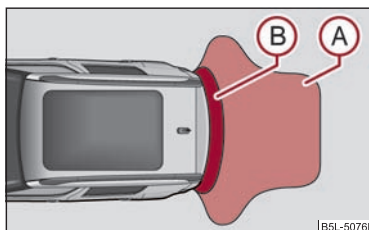
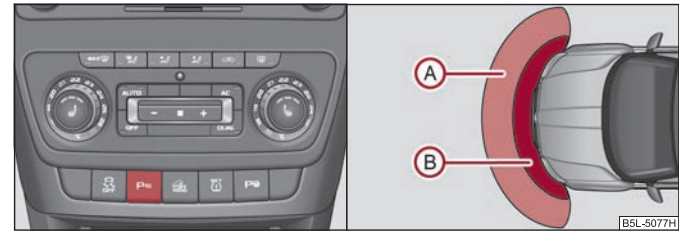

Fig. 109 Parking aid: Detection range of rear sensors
Fig. 110 Activating the parking aid / detection range of the front sensors
The clearance warning begins at a distance of about 160 cm from the obstacle (area A ⇒ fig. 109). The interval between the warning signals becomes shorter as the clearance is reduced.
The distance warning begins at a distance of about 120°cm from the obstacle in front of the vehicle (area A ⇒ fig. 110) and about 160 cm from the obstacle behind the vehicle (area B ⇒ page 112, fig. 109). The interval between the warning signals becomes shorter as the clearance is reduced.
The parking aid is activated when the **reverse gear** is engaged and the ignition is turned on or by pressing the button  ⇒ page 113, fig. 110 - the symbol  lights up in the button. The activation is confirmed by a brief acknowledgement signal.
The parking aid is deactivated after pressing the button  ⇒ page 113, fig. 110 or at a speed of more than 10 km/h - the symbol  in the button is no longer illuminated.
- If a warning signal sounds for about 3 seconds after activating the system and there is no obstacle close to your vehicle, this indicates a system fault. The fault is confirmed additionally when the symbol  flashes in the button ⇒ page 113, fig. 110. Have the fault rectified by a specialist workshop.